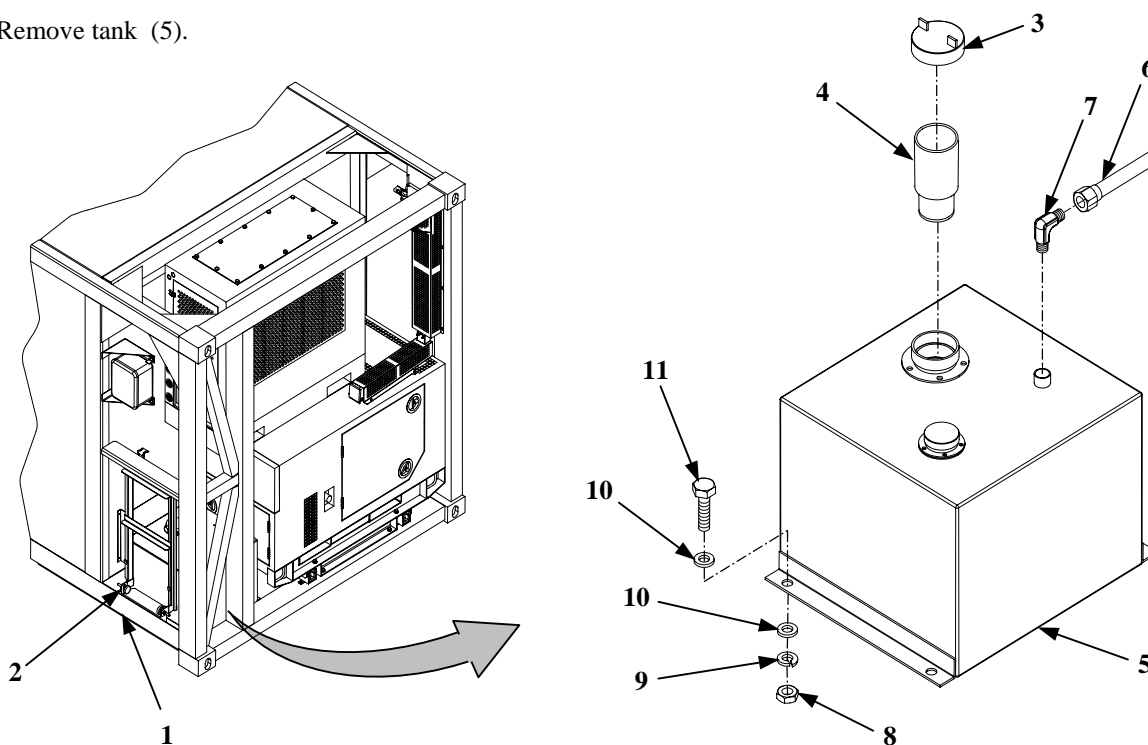

Figure 1. Auxiliary Fuel Tank Removal
1. Loosen two knobs (1, Figure 1); lift ladder (2) and move to down position.
2. Remove cap (3) and strainer (4) from fuel tank (5).
4. Remove fuel hose (6) from elbow (7).
5. Remove four nuts (8), lock washers (9), eight flat washers (10), and four screws (11). Discard lock washers.
6. Remove tank (5).